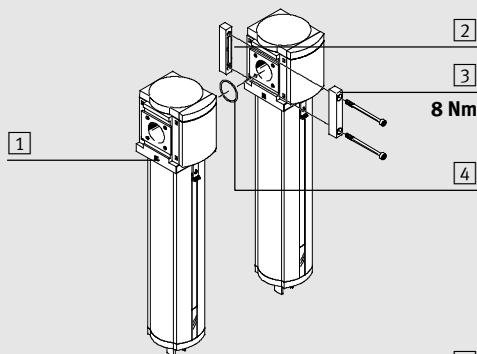

Fig. 1/图 1
Fitting together two service units of size MS9 (→ fig. 1)
- Note the direction of flow from 1 to 2. The figures 1 on the product housing serve as an orientation.